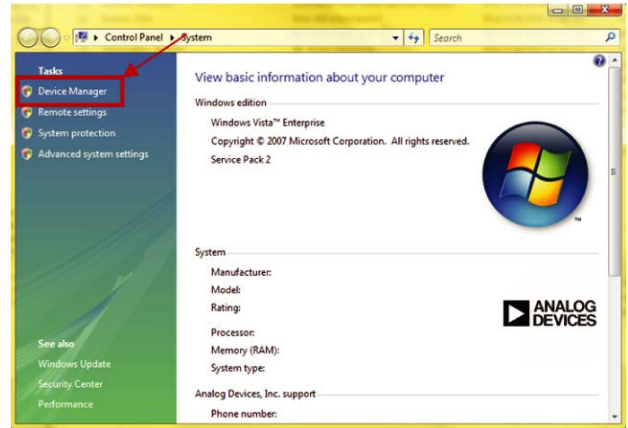

Figure 5. Computer Properties
1. From the **Start** menu, right-click **Computer** and select **Properties**. The window shown in Figure 5 opens.